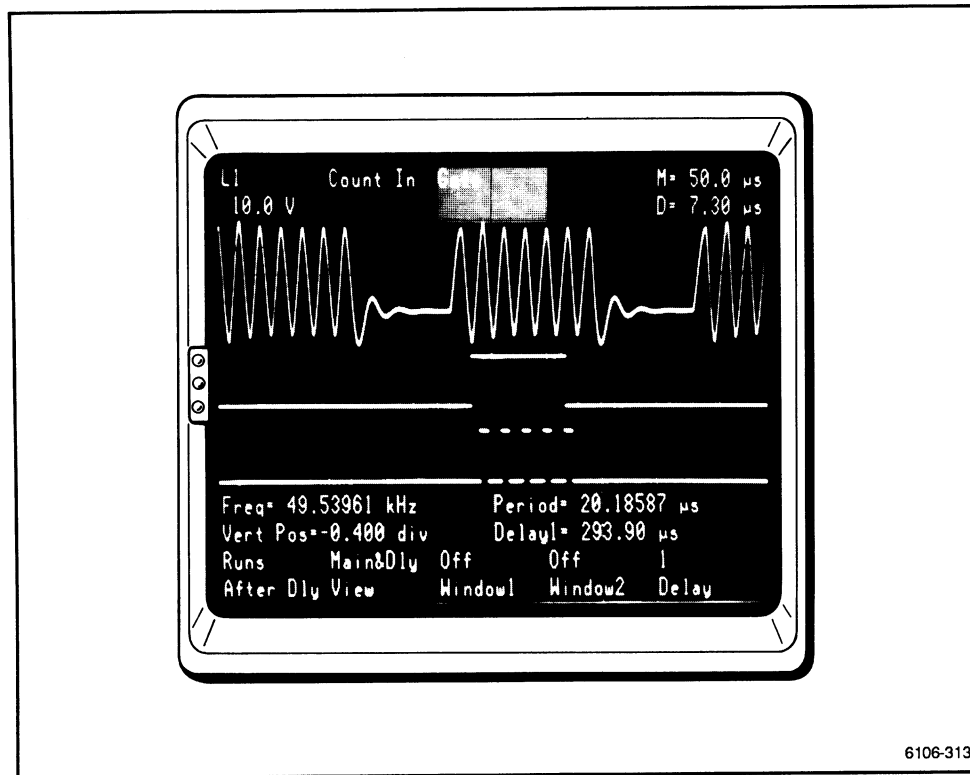

Figure 2-114. Gated frequency display.
- The gated frequency measurement will appear toward the lower left in the display. (See Fig. 2-114.)